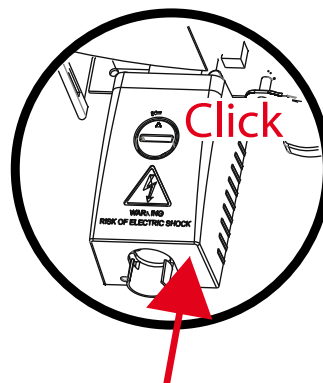

Figure 5-5: Close the AC connection module
- 5** Close the AC connection compartment by clicking the cover in place, see figure 5-5.